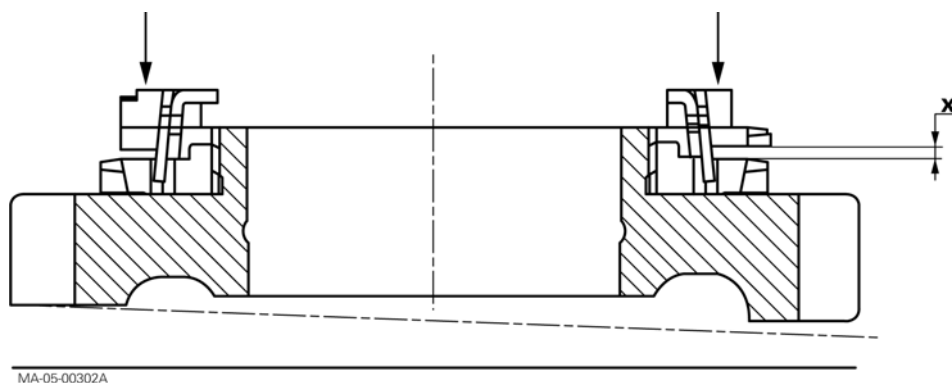

Fig. 7
4. Stack the coupling flange (3), cones (2) and (8) and ring (7).
5. Correctly position the ring (7) on the cones (2) and (8), turning it one way then the other several times and applying manual pressure.
6. Using a set of shims, measure dimension X (Fig. 7) at three equidistant points.